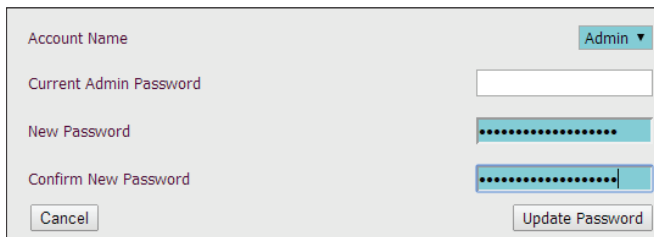

Figure 32: Changing the Admin Password
2.) In the *Passwords Window*, select **<Admin>** as the Account Name. Then *type* a password in the New Password field, *retype* the password in the Confirm Password field and then *click* **<Update Password>**. See **Figure 32**. If you are changing the Admin password, you must *type* the current password in the Current Admin Password field.